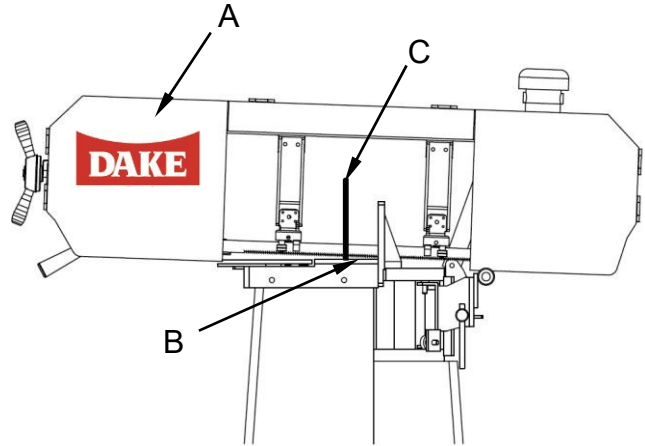
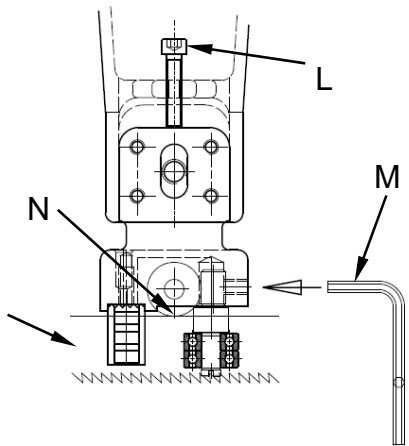
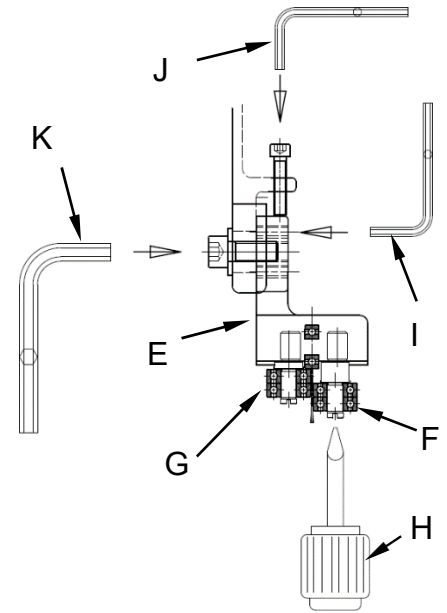

Figure 4
Figure 7
Figure 6
1. Raise the saw to the upward position and the bandsaw roughly $\frac{1}{2}$ " high from the workpiece as shown in (Fig. 4).
2. Remove the 90° angle ruler (C) and lean it against the workpiece surface.
3. Check the saw belt (B) is perpendicular to the work piece. NOTE: (If the deviation is large, you can adjust the blade guides accordingly).
4. First make sure that the bearings (F) and (G) are in close contact with the bandsaw surface. (Note: Visually, the bearing surface and the bandsaw surface are in close contact. Once the bearing can still be rotated freely, it is to ensure that the bearing is not crushed. , Easy to cause damage).
5. Adjust the bearing shaft. It can be adjusted with a slotted screwdriver (H) and fixed with a hexagon wrench (M). (Fig. 6) (Fig. 7)
6. Adjust the bandsaw 90 degrees, you can put the hex wrench (K) to loosen the screw, use the hex wrench (I) to adjust 90 degrees, and the hex wrench (J) to adjust the gap between the back of the bandsaw and the upper bearing After finishing the fine adjustment, fix the screw lock with the hexagon wrench (K). NOTE: (It is necessary to check and adjust the 90-degree angle between the main block and the two positions from the guide block at the same time)
8. After the saw belt has been tested correctly, the tungsten steel guide block (O) can be fixed on the guide block (C) with screws (P) to improve the stability of the saw belt when it rotates. (Note: The gap between the tungsten steel guide block and the saw blade surface must be about 0.1mm (about 1 sheet of paper) to prevent the tungsten steel from directly scratching the saw blade surface and causing damage)
9. Lift the saw bow after completion, as shown in Fig.4, loosen the rotating seat mechanism, adjust the saw belt and fix the vise surface at a 90-degree angle, and use the zero-point fixing frame screws to perform zero adjustment. (Note: Make sure that the iron cut of the roller groove of the rotating seat is clean, to avoid the damage caused by the deposit when the bearing rolls)